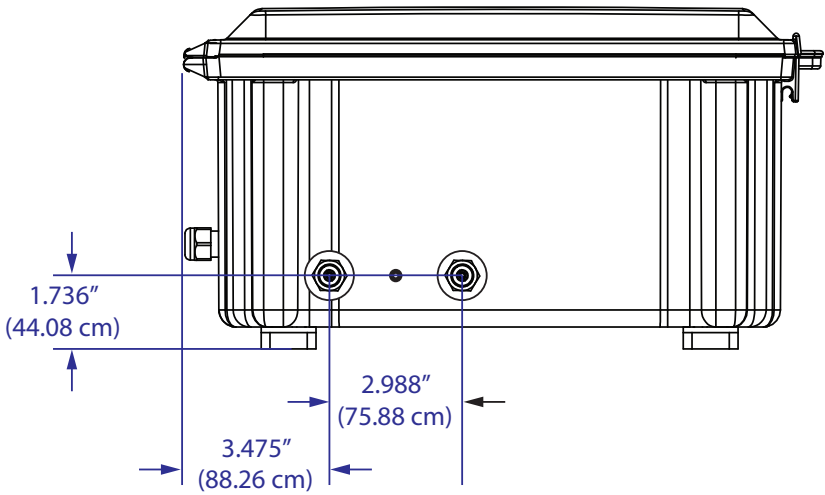

Figure 5: 3017M plumbing connections, bottom view
6. Attach the 1/2" ID drain tube to the barbed fitting on the bottom of the analyzer. Refer to **Figure 5**.